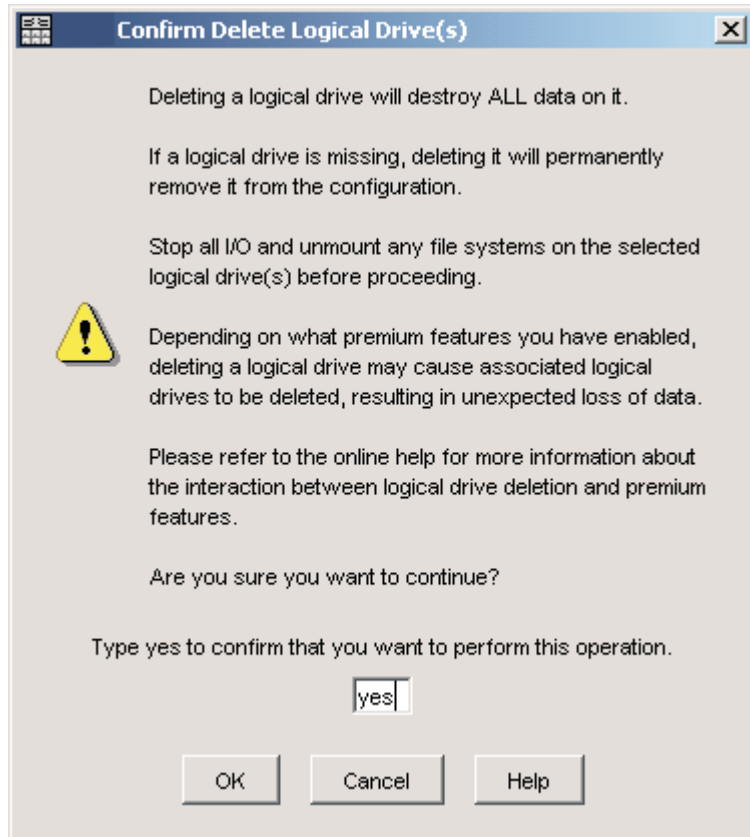

Figure 21. Delete FlashCopy Logical Drive window
3. The Delete FlashCopy Logical Drive window opens, as shown in Figure 21 on page 49. Type Yes and click **OK**.